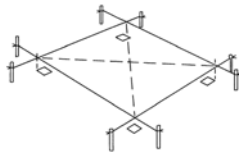

Fig 3 Dig post holes
- Dig post holes of sufficient size to allow at least a 300mm x 300mm x 300mm concrete pad to be poured for the post stirrup bracket (Fig 3).